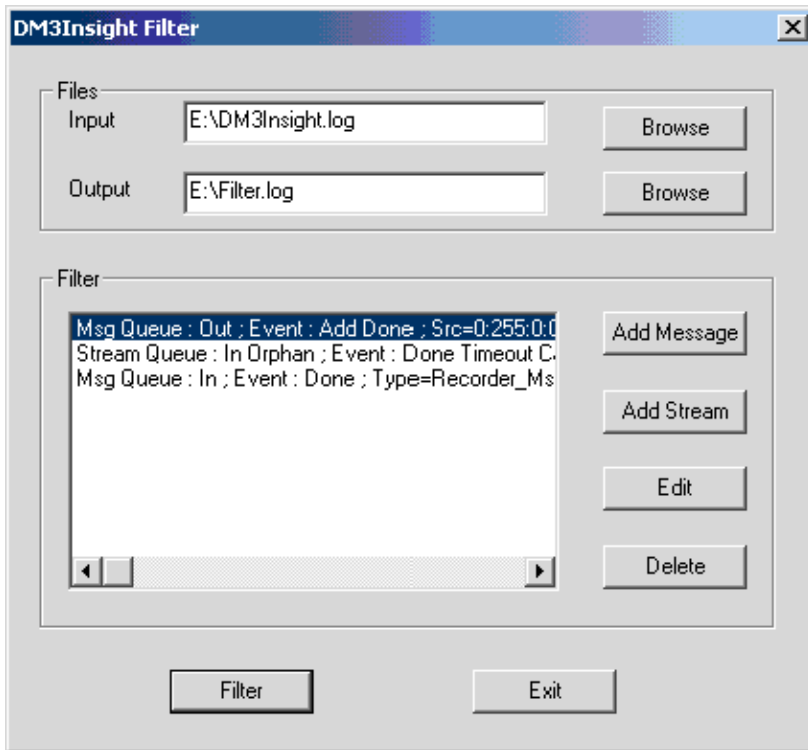

Figure 16. DM3Insight Filter - Message and Stream Filters Added
9. Click **OK**. The **DM3Insight Filter** screen (Figure 16) will show the selections you've made so far.